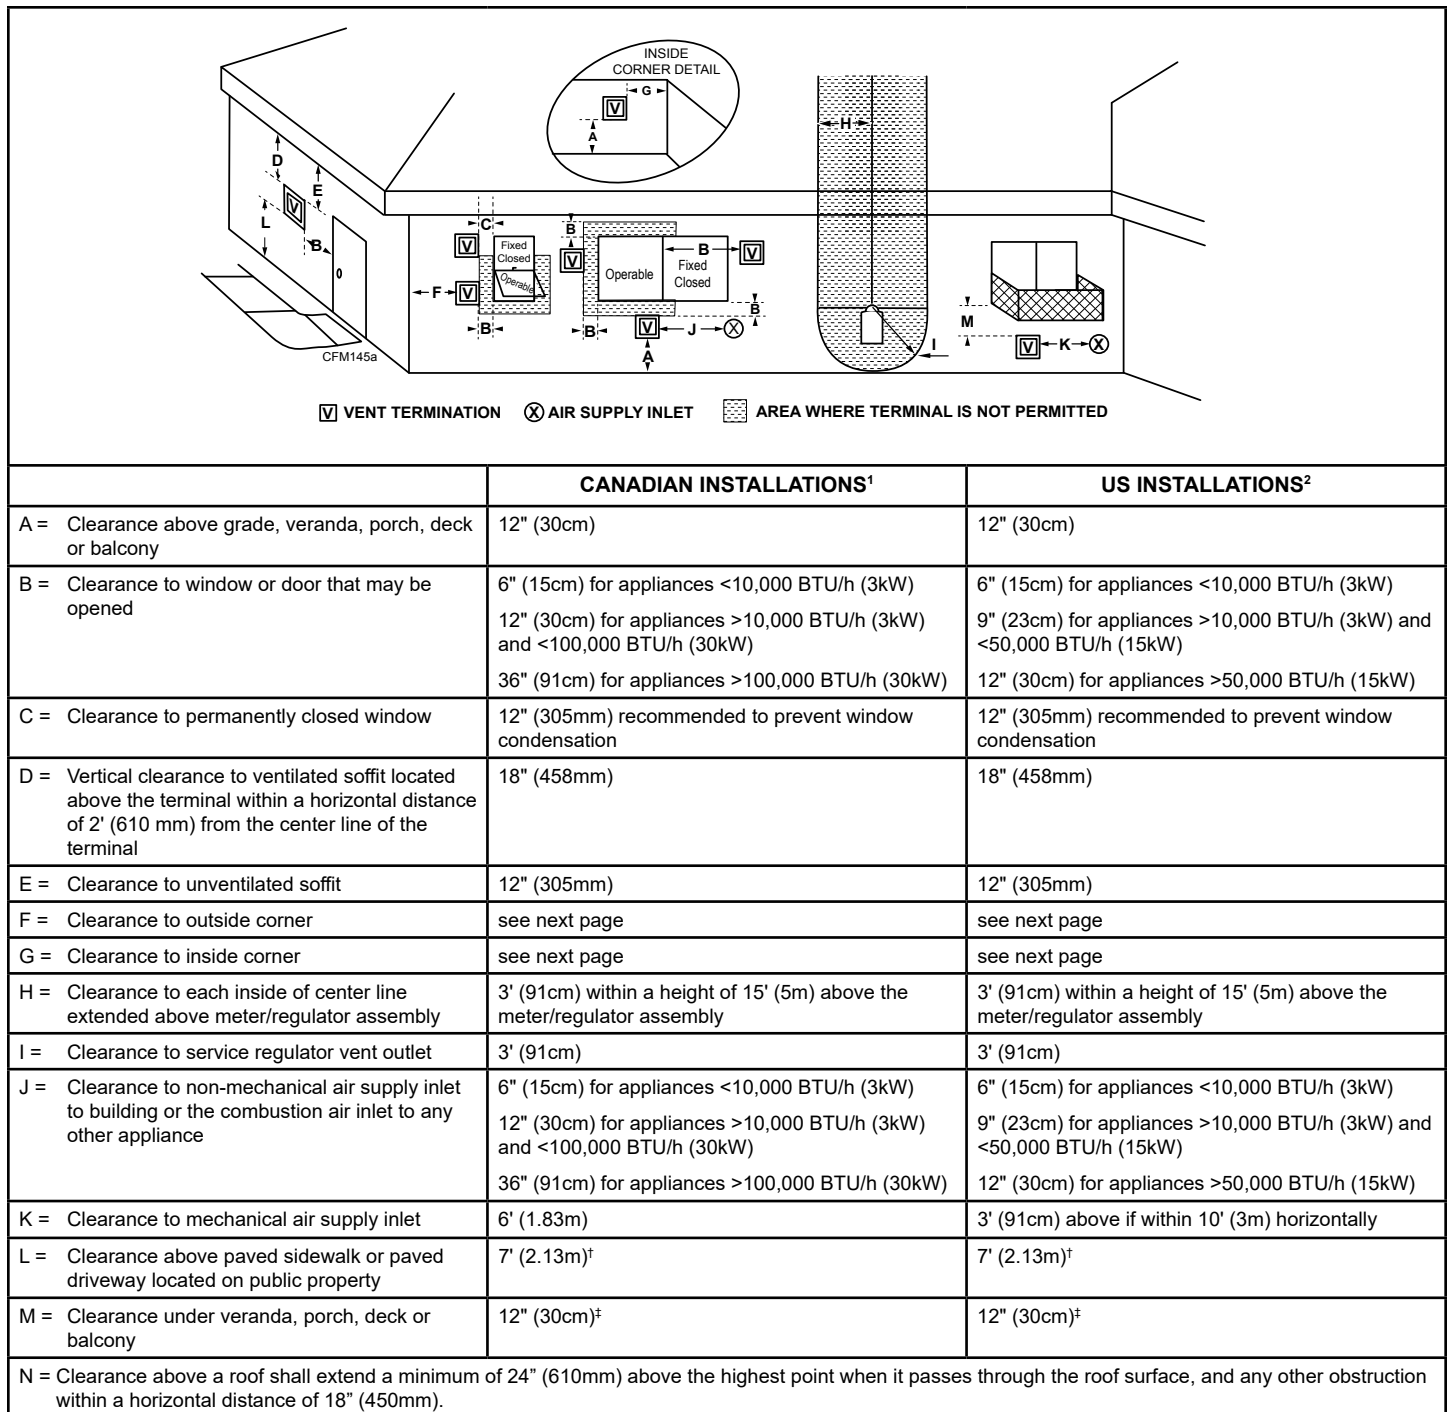

Figure 2.10 - Vent termination clearances.
- Horizontal termination must also meet the criteria shown in Figures 2.10 and 2.11.
When planning the installation, consider the location of the vent terminal and clearances. Some of the most common clearances to keep in mind are shown in Figure 2.10.
Important: All vent clearances must be maintained. Check your vent termination clearances against Figures 2.10 and 2.11.